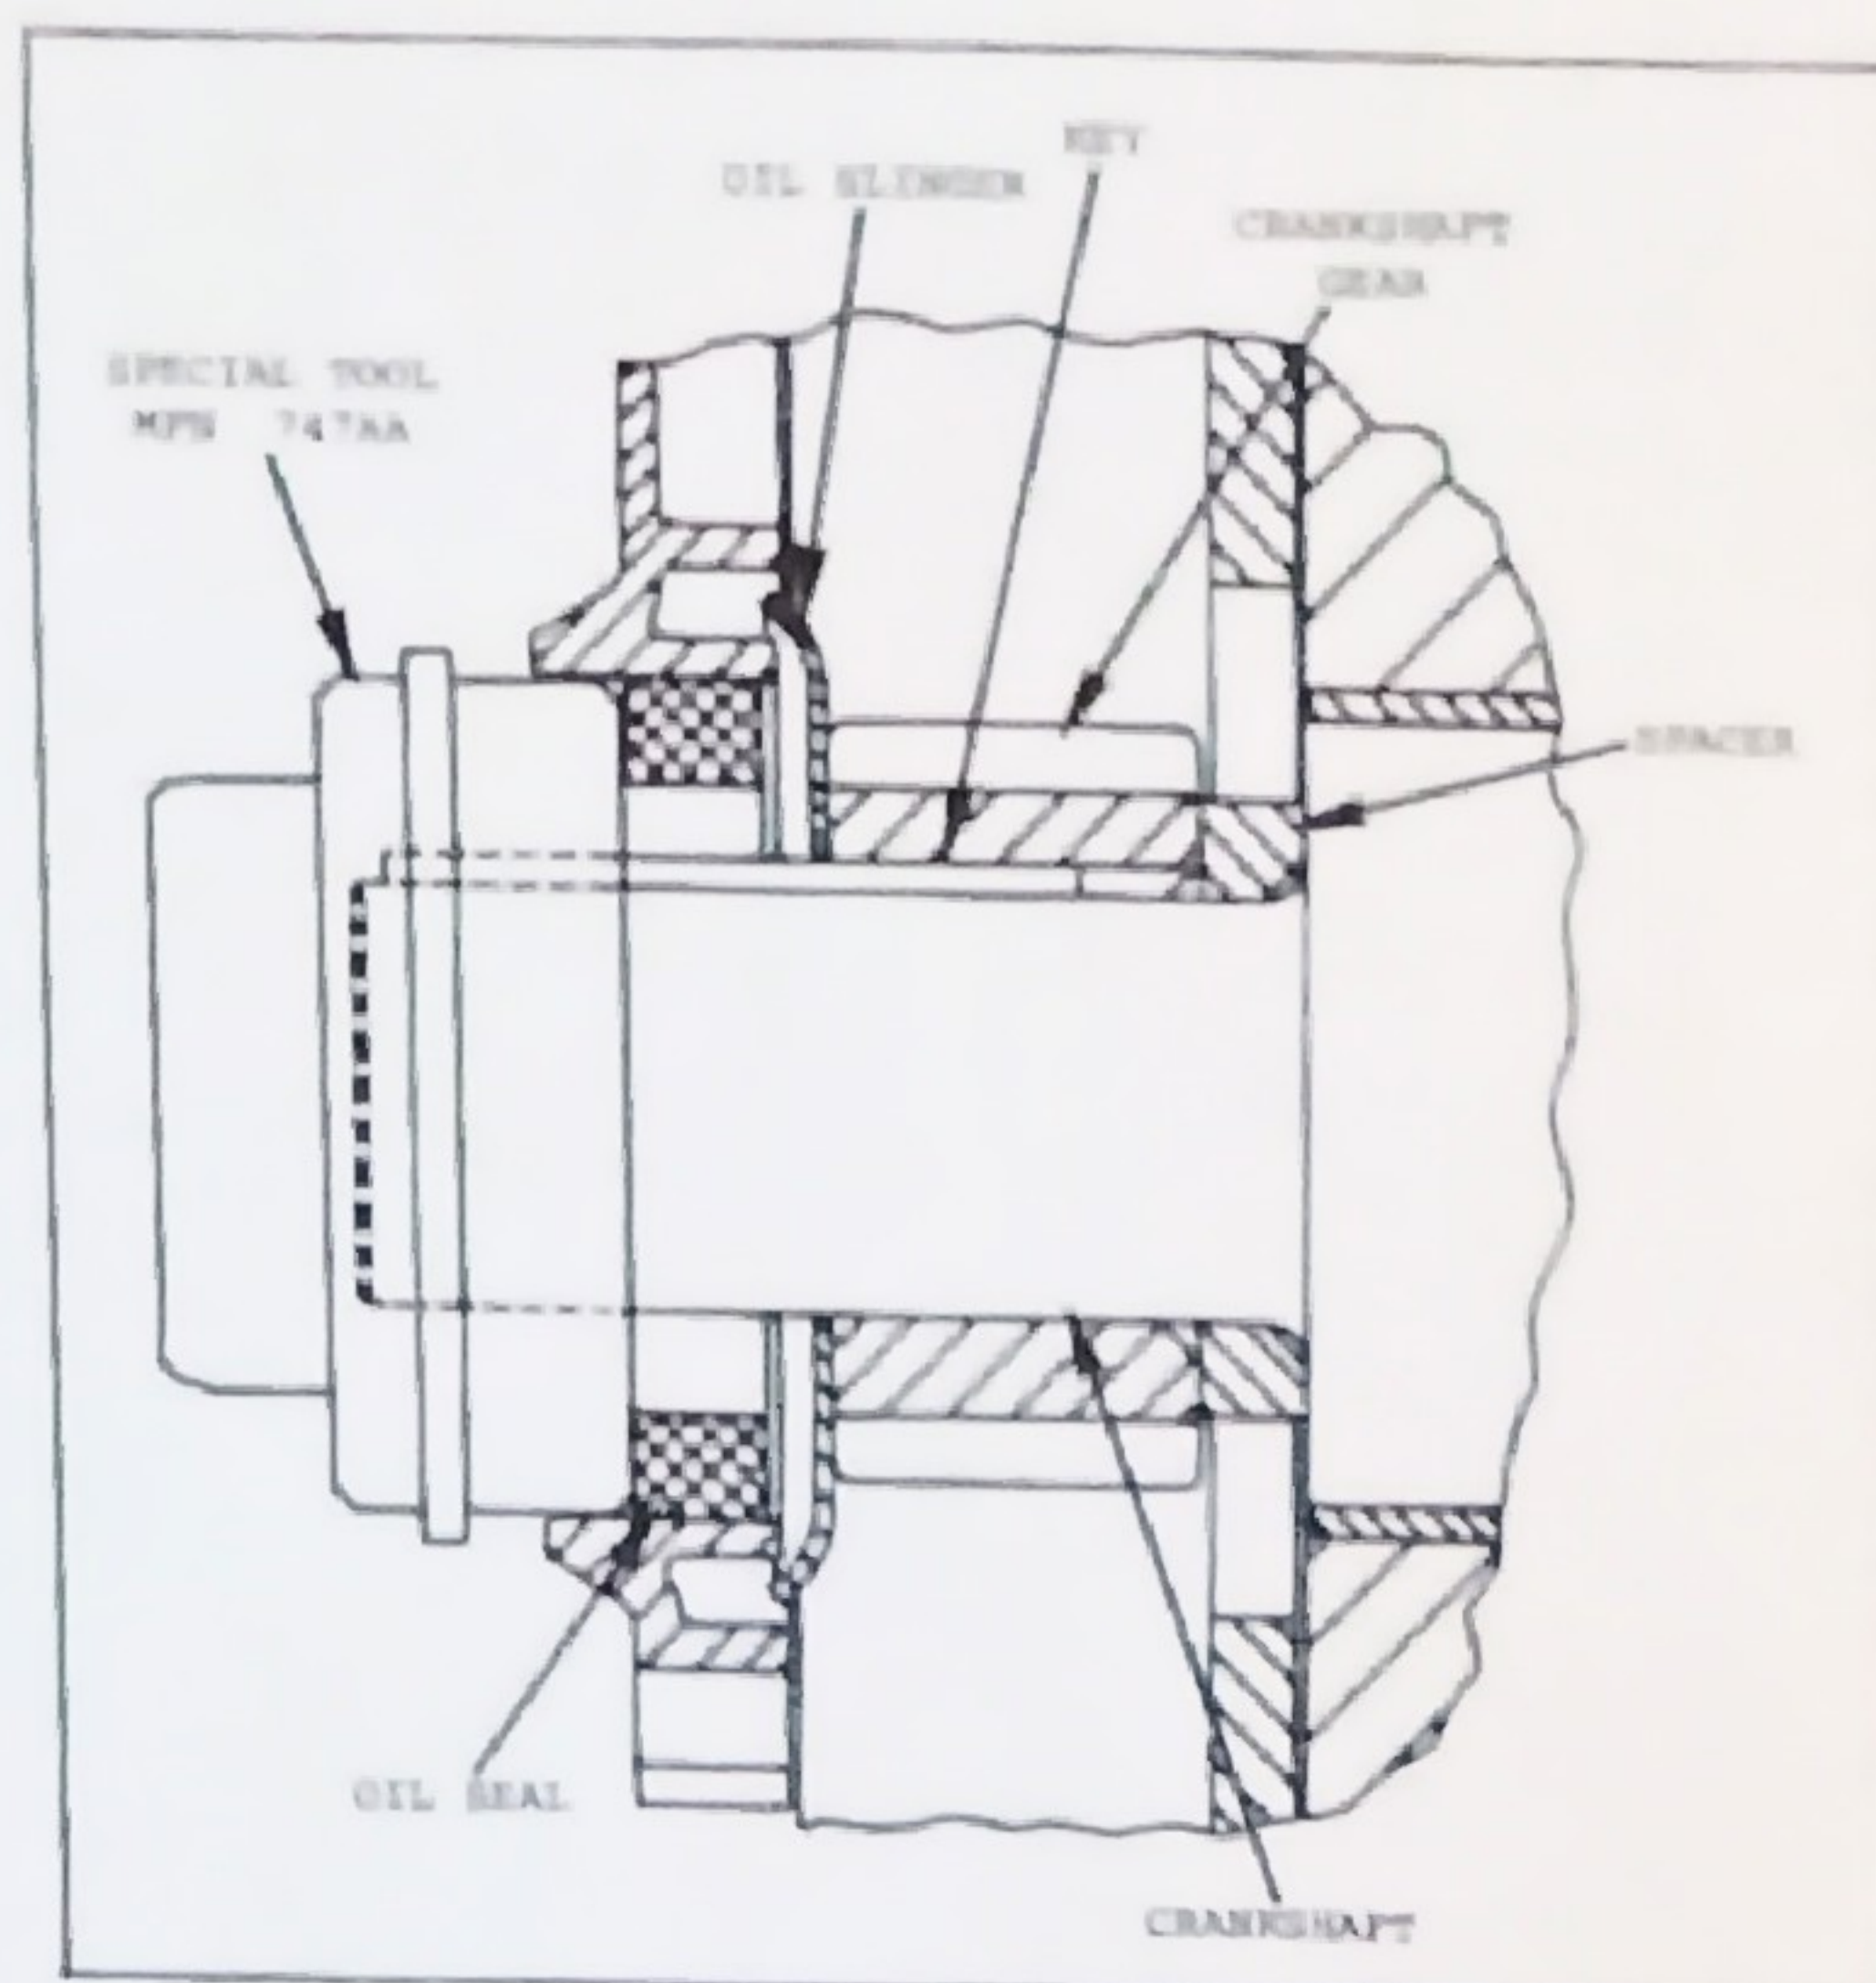

Fig. 35 - Sectional View Showing Timing Gear Cover Locating Side of Special Tool MFN 747 AA - Shown being Used with Oil Seal in Place
2. Slide single stepped side of special tool MFN 747AA on crankshaft and locate it in bore of cover to correctly position cover in relation to crankshaft. Refer to Fig. 35.